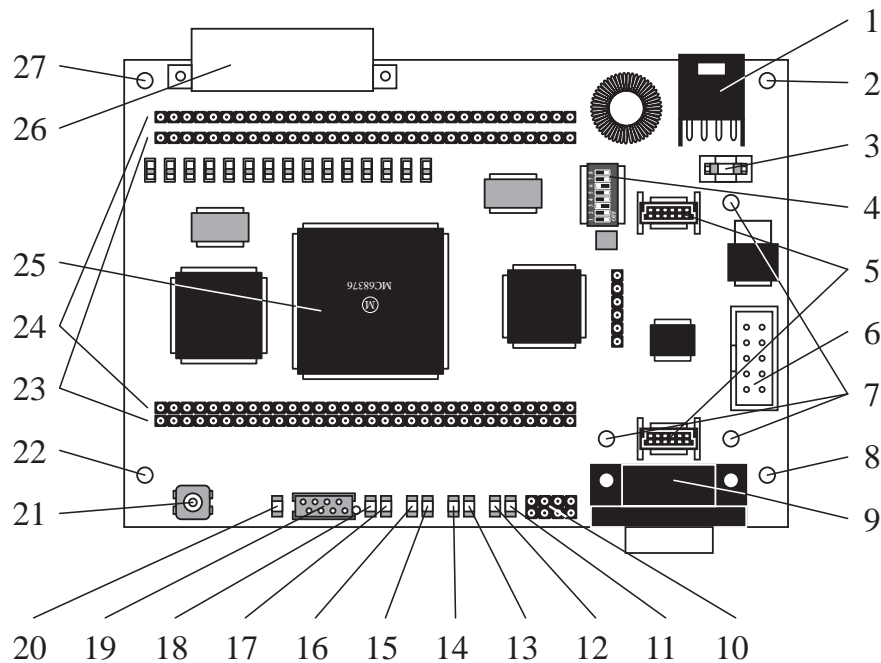
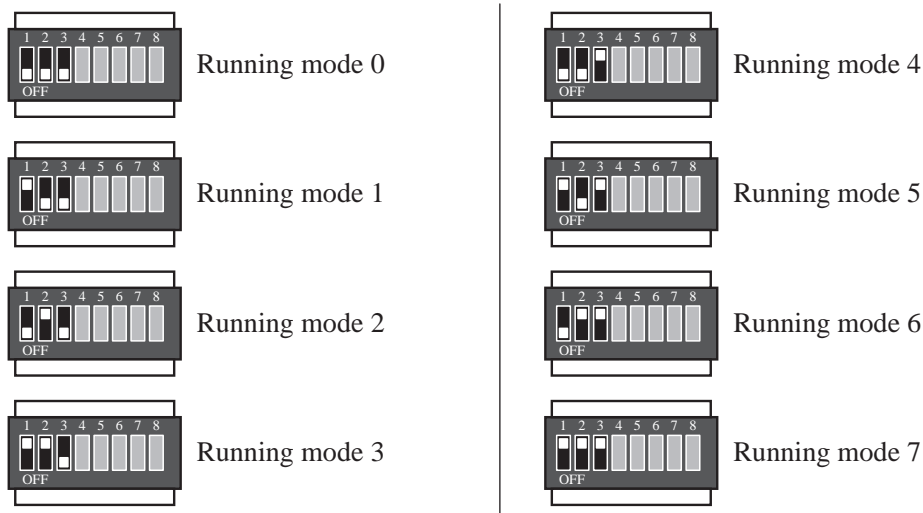

Figure 1: Position of some parts of the board.
Figure 7: DIP-switch running mode setting for positions 1, 2 and 3.
The Kameleon board has to be mounted using the four fixation holes (items 2, 8, 22 and 27 of figure 1). These holes are made for a fixation with M3 screws (3mm in diameter) and are placed on a grid having a step of 15 mm. The MMA extension connector cannot be used as mechanical support of the board.
A grid of 2x4 jumpers holes (item 10 in figure 1) is placed near the RS232 connector.
The running mode of the board is defined by a DIP switch (item 4 in figure 1) and defines the software executed at boot by the Kameleon board.
The software installed on your board includes an important library of modules for the real time control of the Kameleon board. Part of these modules (building the BIOS) ensure the basic functionalities of the Kameleon board, like hardware configuration, bus recognition, extensions setup etc. Another part of these modules ensure the interface with the user through the serial line or another communication channel. Depending on the use of the Kameleon (remote control, downloading, test, etc.) you can specify the boot on a given software module by setting the correspondent running mode. Three switches (positions 1, 2 and 3) of the running mode selector (item 4 of figure 1) allow the selection of the most important running modes in several configurations. You have the choice between the following switch configurations (see figure 7 for the corresponding switch positions):
The switch 4 of the running mode selector (item 4 of figure 1) defines if the board acts on the MMA bus as slave or as master. If set on the OFF position, the board is a MMA master. If set on the ON position, the board is a MMA slave. This setting is useful only with multiple-boards configurations or when using the Kameleon board as Koala extension board.
The reset button (item 21 of figure 1) can be used at any time to reset the board. Please reset the board using this button and not switching off and on the board.
The board is equipped with 9 LED (items 11 to 18 and 19 of figure 1) of different colours and having various functions.
The two LEDs (items 11 and 12 of figure 1) placed near the RS232 9 pin connector show the RS232 serial communication activity. The first LED (item 11 of figure 1) which is green, indicates the data going from the Kameleon board to external devices. It is called Tx (transmit) data LED. The second LED (item 12 of figure 1) which is red, indicates the data coming from an external device to the Kameleon board. It is called Rx (receive) data LED.
The 5 LEDs (items 13 to 17 of figure 1) situated after the RS232 Rx and Tx LEDs are user specific LEDs, numbered from 0 to 4. User specific means that these LEDs have no fixed and specific meaning for the basic functionalities of the board and can be activated by the user to display user specific information. The last LED (item 17 of figure 1) is not completely free. The user can access to it but this LED is normally used by the ALIVE process. When this process runs, the LED is switched on and off continuously, showing that the processor and the board are alive. As soon as this LED stop flashing, there could be a problem at the level of the processor. This functionality is normally appreciated by the user, which often implement this type of background tasks. For this reason this LED is included in the user specific LEDs.
The last LED (item 18 of figure 1) before the K-net connector is the power supply LED, active when the board is powered.
The 9 pin DB9 connector (item 9 of figure 1) enable a primary RS232 connection with the Kameleon board. This RS232 interface is configured as DCE and can therefore be connected directly to a computer. No null-modem is needed to connect the Kameleon board to a computer. A null-modem cable is needed for the connection of the Kameleon board with another DCE device, like a modem for instance.
A secondary RS232 connection can be obtained equipping the Kameleon board with an extension board on the SXB connectors (item 5 of figure 1).
The Kameleon board is equipped with a BDM connector (item 6 of figure 1) which enable the access to the Background Debug Mode of the microcontroller. This hardware feature of the CPU32 core of the Motorola microcontroller enable to make very low-level debug on the code running in the microcontroller. Please refer to the Motorola documentation [Motorola98] for more details.
The Kameleon board is an open system with several extension possibilities. One of this possibilities is available using the Serial eXtension Bus (SXB) connector (item 5 in figure 1), which enable addition of communication channels. Optional modules can be plugged on this connector to implement a second RS232 line or to access to a CAN bus.